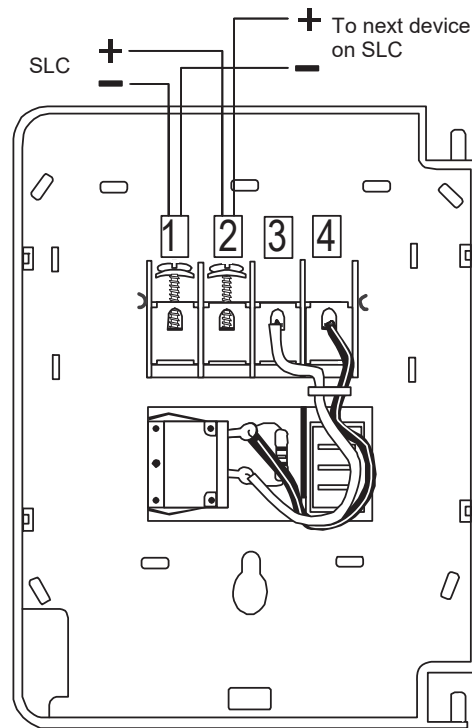

Figure 11.2 Wiring of an SK-PULL-SA Pull Station to an SLC
11.2.4 Figure 11.2 shows typical wiring for an SK-PULL-SA Manual Pull Station to an SLC: **Wiring an SD500-PS/DA Manual**
Figure 11.2 shows typical wiring for an SD500-PS/DA Manual Pull Station to an SLC: